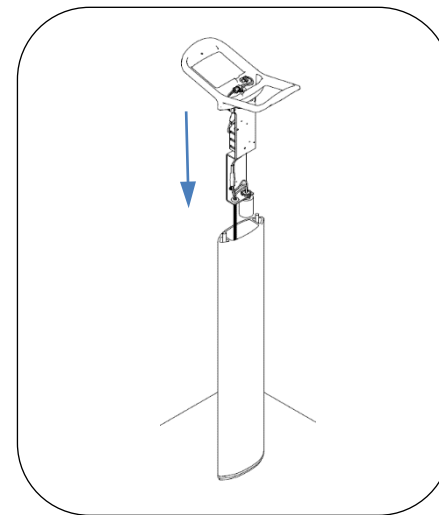

Fig. 6 – install light head
3. Open silicone dielectric compound squeeze a generous amount into each wire terminal before connecting to battery. Use the silicone dielectric compound to encapsulate the exposed portion of the battery terminals. Set light head assembly over threaded rods, see Fig 6.